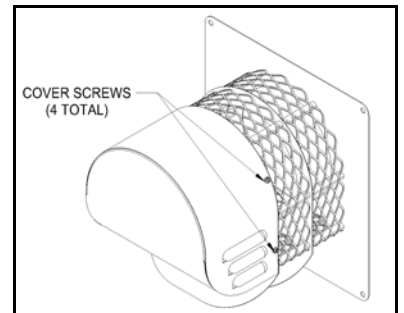

Figure 14
1. Remove the motor enclosure cover by loosening the four screws. (See Figure 14)